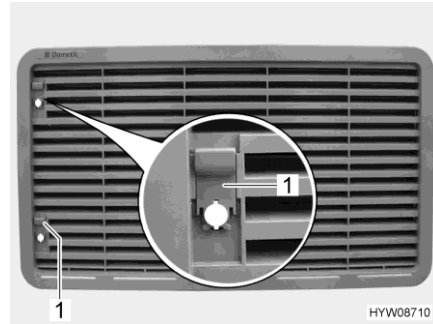

Fig. 195 Refrigerator ventilation grill
- Push sliding trap (Fig. 195,1) upward.